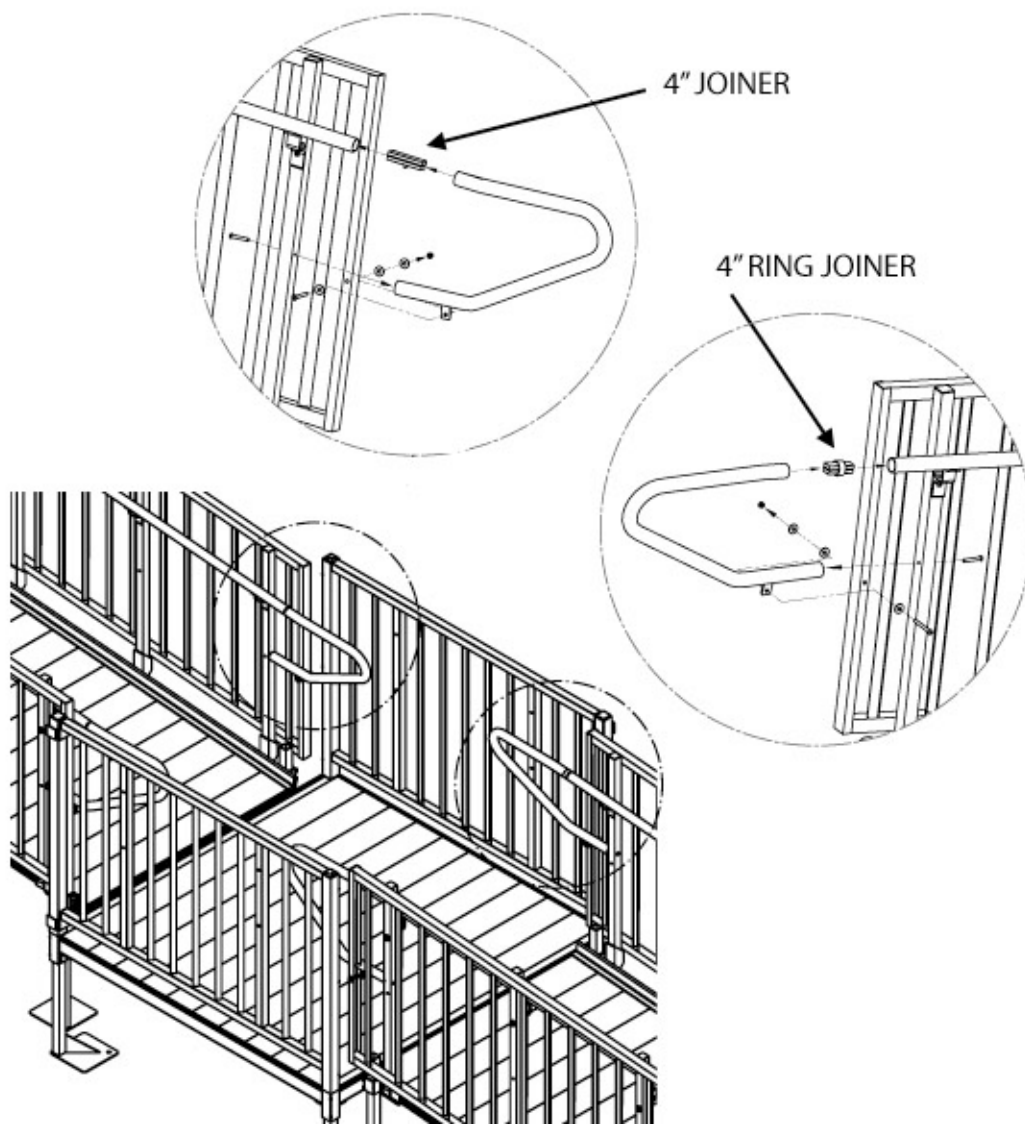

FIG. 34
- 8.2 At the bottom of the ramp (i.e., ground), install two lower loops into the ends of each handrail (FIG. 34).
- 8.3 At a straight through resting platform (FIG. 34):